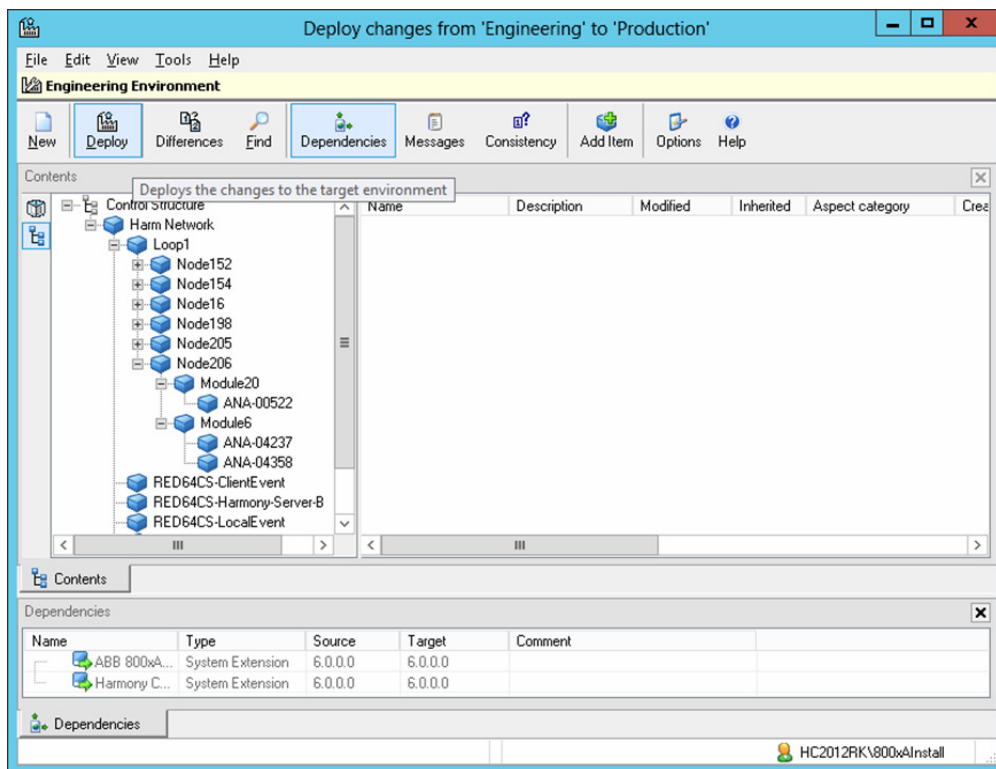

Figure 54. Workplace Displaying Environment Banner
- Open the Engineering Workplace. Figure 54 shows the Engineering Environment banner and newly enabled toolbar items, including the Launch Deploy tool.